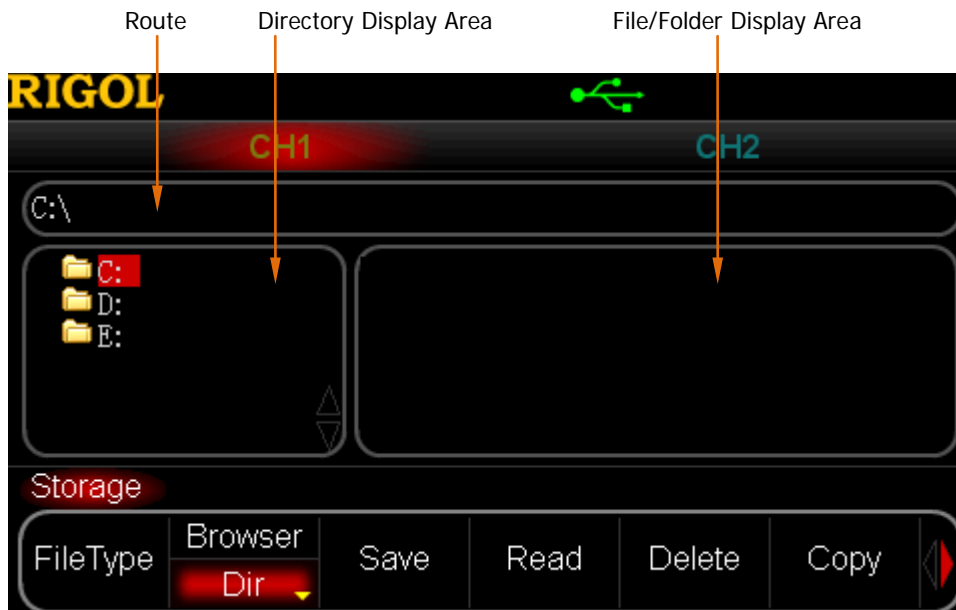

Figure 9-1 Store/Recall Interface
3. Press **Store/Recall** key at the front panel of DG5000 to enter Store/Recall interface. The model identifier of DS1 will appear in the "Directory Display Area" (refer to Figure 9-1).